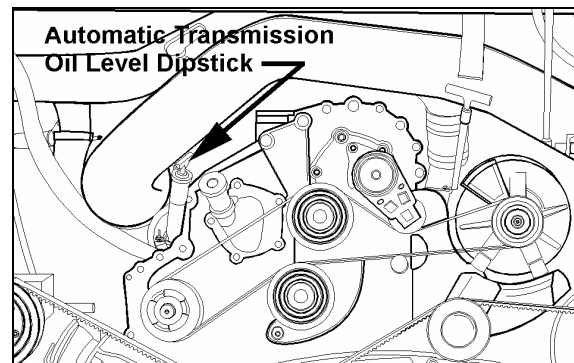

FIGURE 7: OIL LEVEL DIPSTICK (AUTO. TRANS.)
To gain access to the dipstick, open the engine compartment rear door; dipstick is located on the radiator side of the engine (Fig. 7).
2. Run the engine for at least one minute. Shift to Drive (D) and operate the engine for 30 seconds at 1000-1500 rpm; then shift to Reverse (R) to clear the hydraulic system of air. Finally shift to Neutral (N) and allow the engine to idle (500 - 800 rpm).
3. While the engine is running, remove the dipstick from the tube and wipe it clean (Figs. 7 & 8).